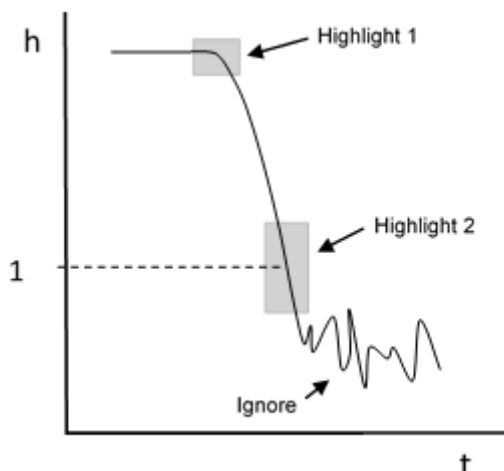

Figure 3 -  $h$  vs.  $t$  graph
- d. You want to get a smooth curve in the top and mid section of your graph as shown in Figure 3. If you don't then repeat the measurement focusing on getting your hand out of the way of the sensor as soon as you release it.
- D) Highlight the graph in the area for when you released the bag. **See Highlight 1 in Figure 3.** There are two shades of highlighting on this software. The darker shade should be like the one in the figure above. This happens when you move the mouse in 2 dimensions on the screen.
- F) Highlight the graph in the area for when the bag is at 1 meter. **See Highlight 2 in Figure 3.** Make sure you highlight the line from *at least* 1.2 m to 0.8 m.